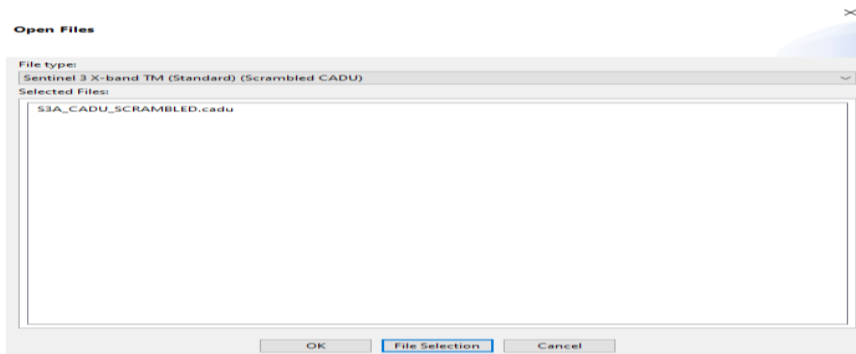

Figure 32: Open file dialog (with types of files)
1. Launch the Open file dialog through menu “File” → “Open” (Figure 32)